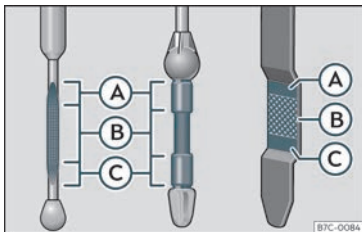

Fig. 202 Engine oil dipstick.
- Then pull it out once more and check the oil level >>> Fig. 202. Top up with engine oil if necessary.
- When the oil level reaches at least zone >>> Fig. 202 (B), unscrew the engine oil filler cap carefully >>> ⚠.
If the oil level is above area»» Fig. 202 , do not start the engine. This could result in damage to the engine and catalytic converter. Contact a specialised workshop.
The oil level must never be above zone »» Fig. 202 . Otherwise oil can be drawn in through the crankcase breather and leak into the atmosphere via the exhaust system.